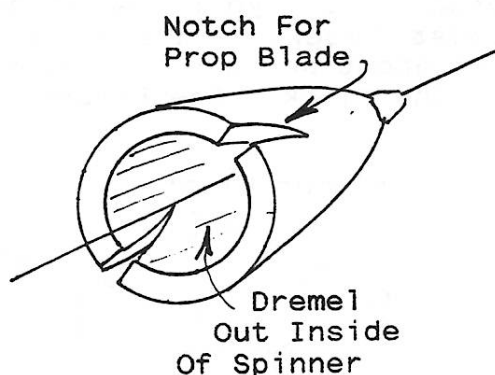

Figure 2
4. O.K. You're finished shaping the spinner. Don't remove the wire from the spinner, but take your Dremel and the smallest pointed tool you have that will grind away the inside of the spinner from the back side. After grinding away a bit, cut small notches in the back of the spinner where the prop blades will fit into the spinner (Figure 2). Grind a little